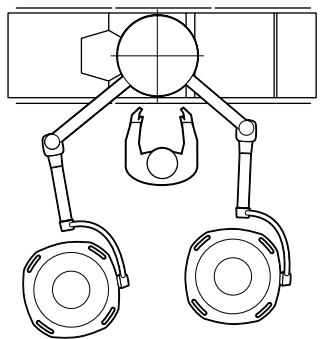

Figure 13.
Some procedures, such as hip pinnings, require both lightheads to be on the same side of the table. See figure 13. In this position the lightheads are behind and adjusted to project light over the head and shoulders of the surgeon. Both lightheads are easily reached for adjustment by non-sterile personnel.
a. Check the vertical tension adjustment of the Height Adjustable Arm for its capacity to support the flatscreen monitor throughout its range of motion. The monitor should move freely yet maintain its selected position without drifting. If an adjustment is necessary, refer to figure 13 and proceed as follows: